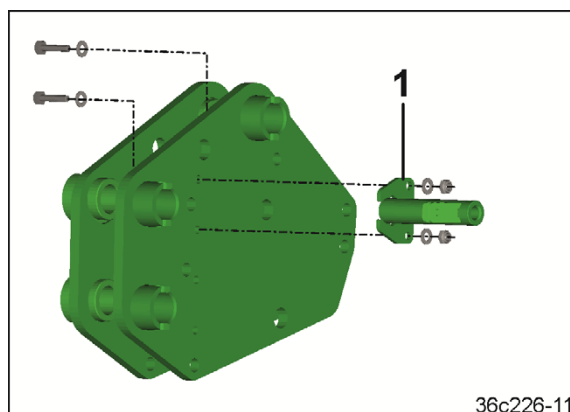

Fig. 93
1. Bolt the holder (Fig. 93/1) onto the upper coupling point.